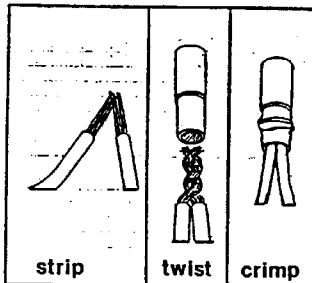

Fig. 5
Step 3: (See Fig. 5) At the airshift switch, twist one new wire with one of the wires removed in step 2. Insert both into a new bullet connector, and crimp. Repeat this step with the two remaining wires at the airshifter switch.